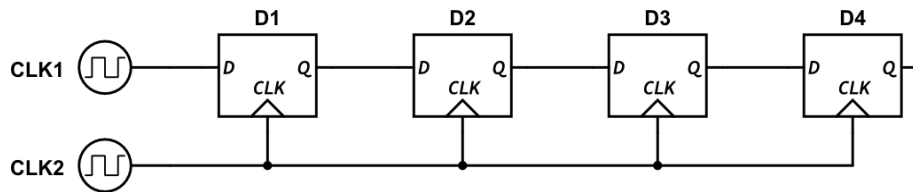

Figure 5: Circuit diagram of a serial in parallel out shift register
**NB** The software used to draw the circuit diagram does not support the same style of D flip-flop used in the definition file, and Fig. 5 was the closest achievable.